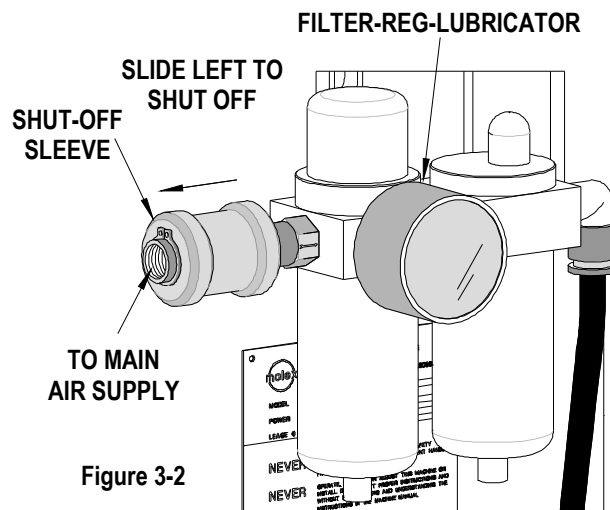

Figure 3-2
9. Disconnect the air supply from the filter-regulator-lubricator supplied with the press, by sliding the shutoff valve sleeve to the left, as shown in Figure 3-2. Remove the plugs from the fittings on the air valve. Do not discard the plugs; when the air applicator is not being used, the fittings should be plugged.
**Note:** When not using an air feed applicator always shutoff the air supply to the filter-regulator-lubricator by sliding the shutoff valve sleeve to the left, the opposite direction of the airflow, as shown in Figure 3-2.